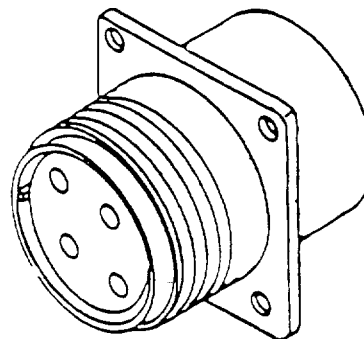

Figure 3. Typical Flanged Receptacle
7. **Flanged Receptacle.** Flanged receptacles (Figure 3) are may be box or wall mount. The body of the connector has a rectangular flange with screw mounting holes at each corner. This type requires five holes in the structure, one for the body and four for the mounting screws. Depending on the thickness of the structure, the receptacle can be mounted with the flange either on the front or back.